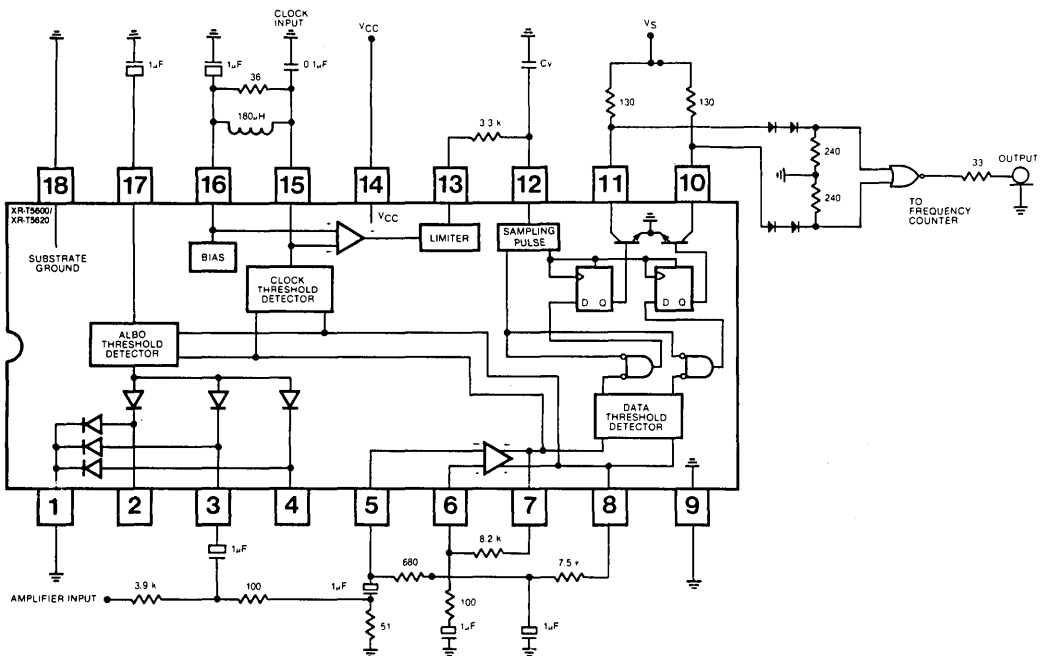

Figure 4. Sampling Pulse Test Circuit
SAMPLE PULSE WIDTH (Ref. Figure 4, $C_y = 27 \text{ pF}$)
2. Sample pulse width is specified with a 2.048 MHz TTL waveform at clock input (Pin 15) and a 2,400 MHz Schottky TTL waveform at amplifier input in the circuit of Figure 4. Figure 7 shows the relevant IC waveforms.
SAMPLE PULSE GENERATOR INPUT WAVEFORM (pin 12 - Ref. Figure 4, $C_y = 40 \text{ pF}$)